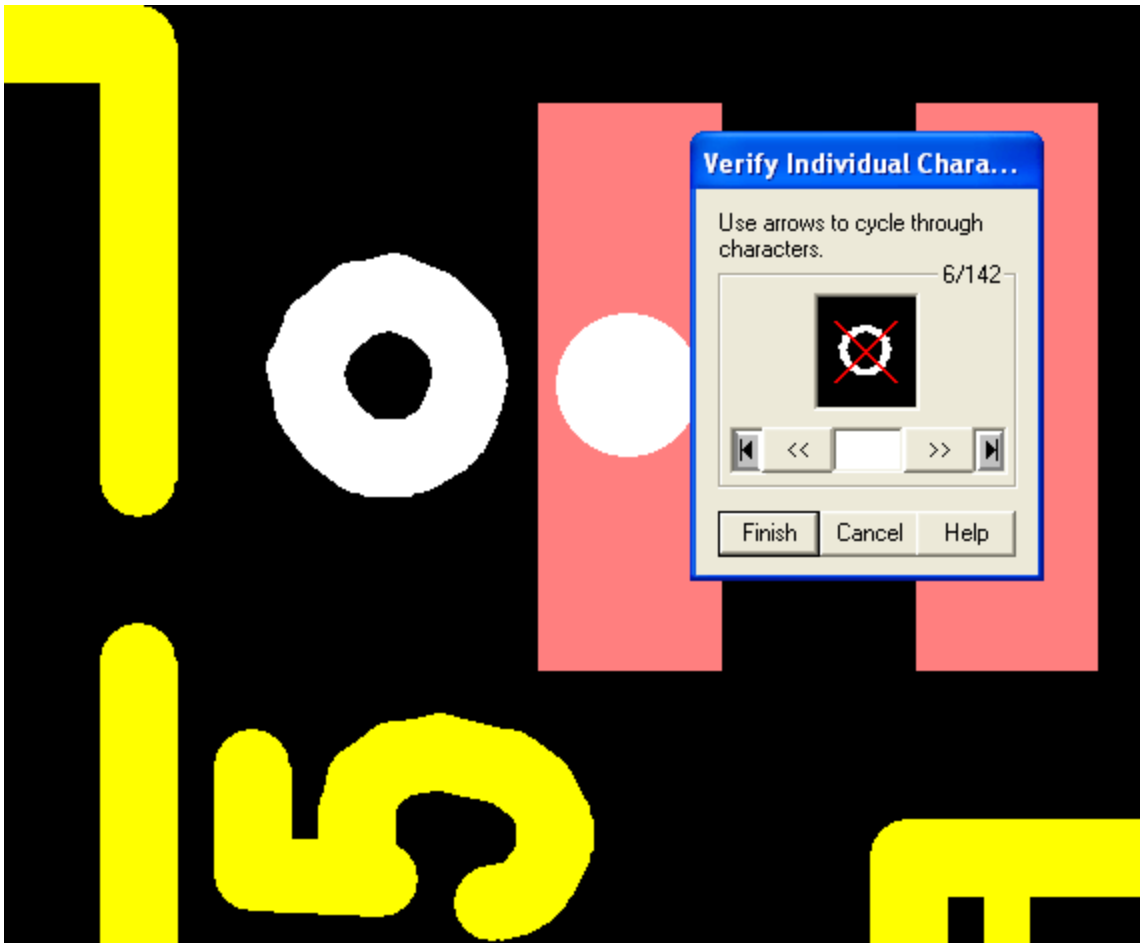

Figure 44
8. Manually correct any reference designators that are recognized incorrectly, such as the 6 recognized as a 9 in the image below – See Figure 44: